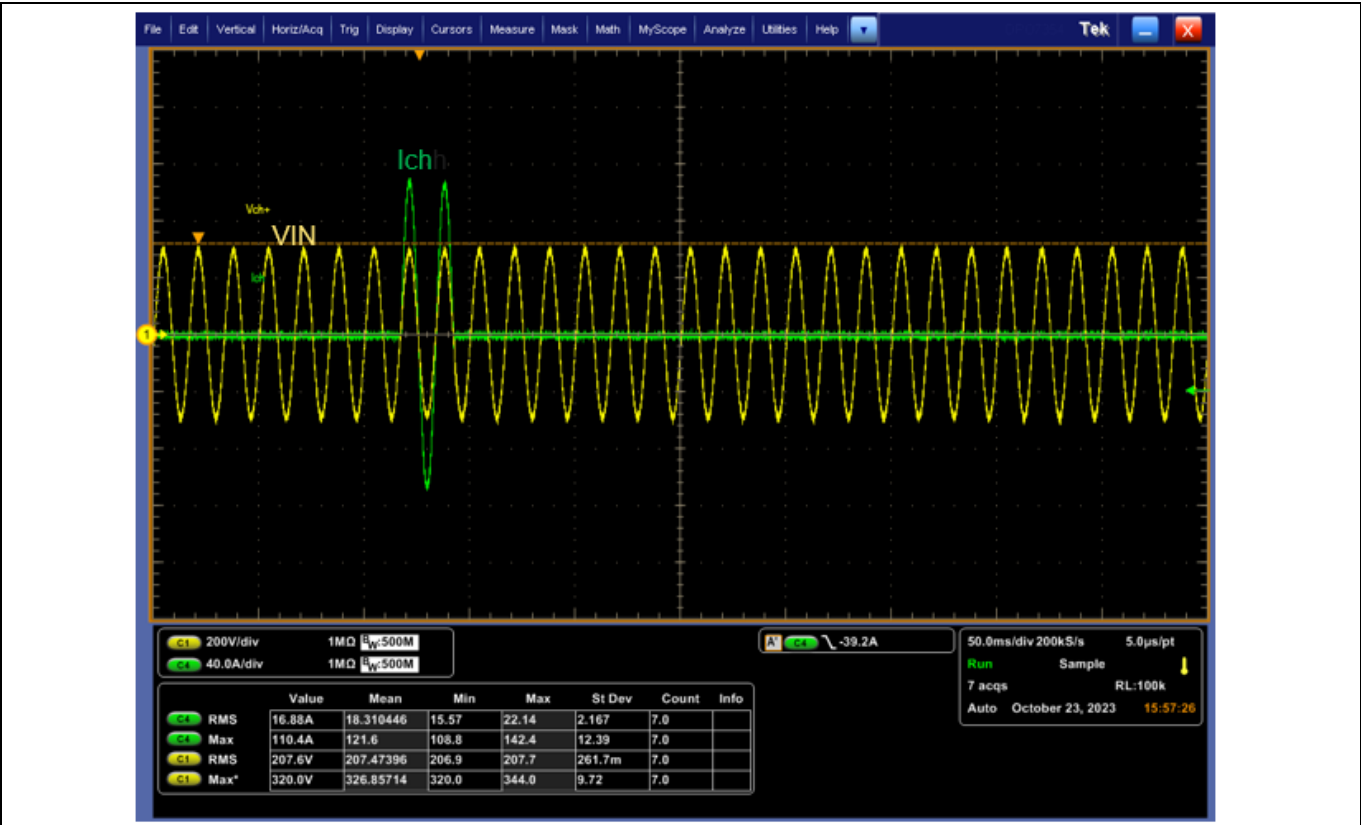

Figure 22 AC15 OVL test
- AC15 OVL: Latched error flag sets when I_{ch} is above the RMS overcurrent factor fast threshold for 1.5 or 2 cycles in AC and 30-40ms in DC system; see Figure 22 test.